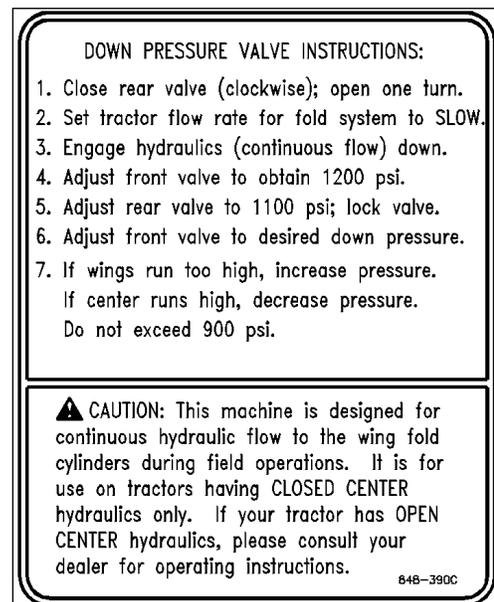

Figure 14
Note: This setup procedure is for tractors with closed-center or pressure compensated flow hydraulic systems. Open center hydraulics not supported. Adjust down pressure valve as shown on decal ④ (located on front right hand truss), Refer to Figure 14.